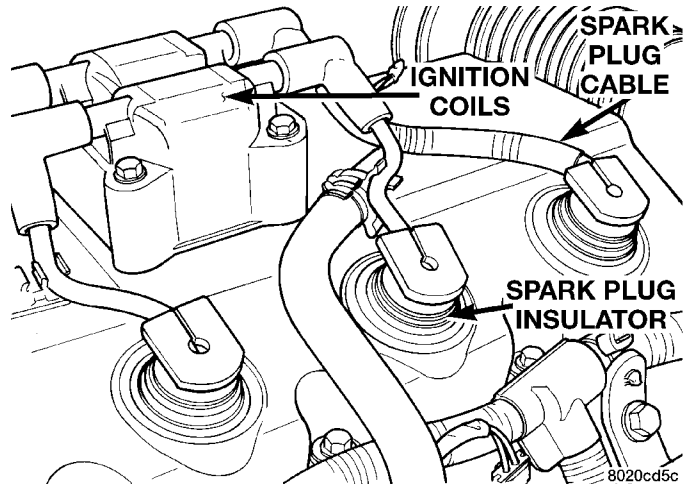

Fig. 38 Ignition Coil and Spark Plugs—Typical
(9) Inspect the ignition coil electrical connector. Ensure the spark plug insulators are firmly seated over the spark plugs (Fig. 38).